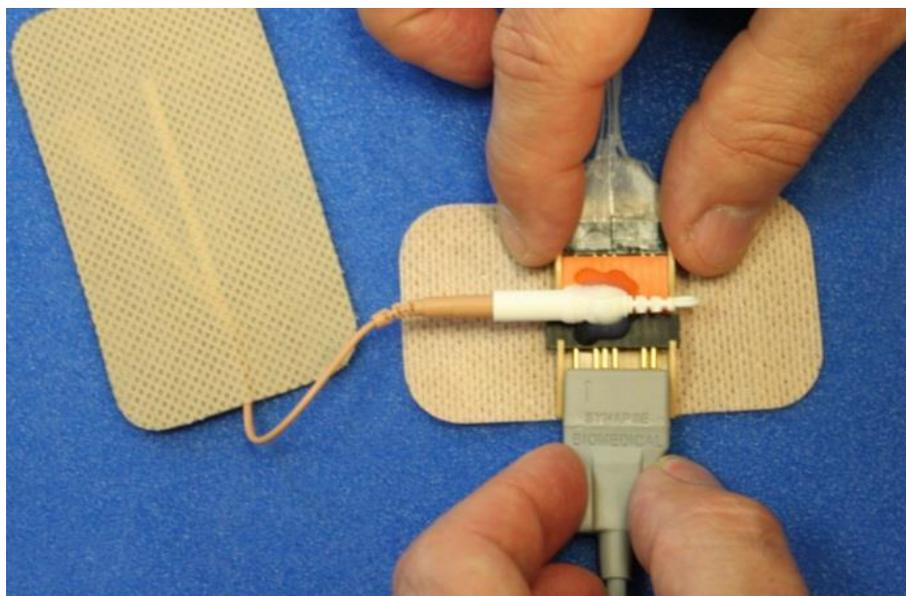

Figure 34
4. Remove the plastic backing from the surface anode. Place the surface anode on the patient near the electrode connector holder. Plug the patient cable into the backup connector (Figure 34).